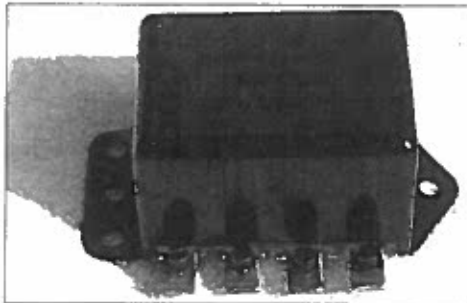

Figure 7: Assembly complete. The concours judge will never now.
16. Replace the cover (Figure 7) and install it in your Healey, ensuring that the baseplate is grounded.